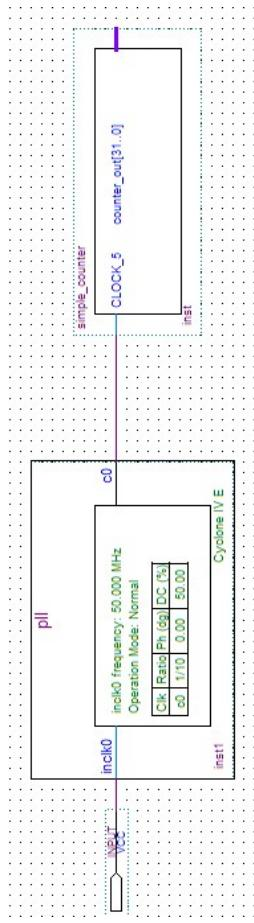

Figure 6-29 Connecting the PLL symbol and Input port
5. Use the mouse to click and drag the new input pin to the left; notice that the ports remain connected as shown in Figure 6-29.